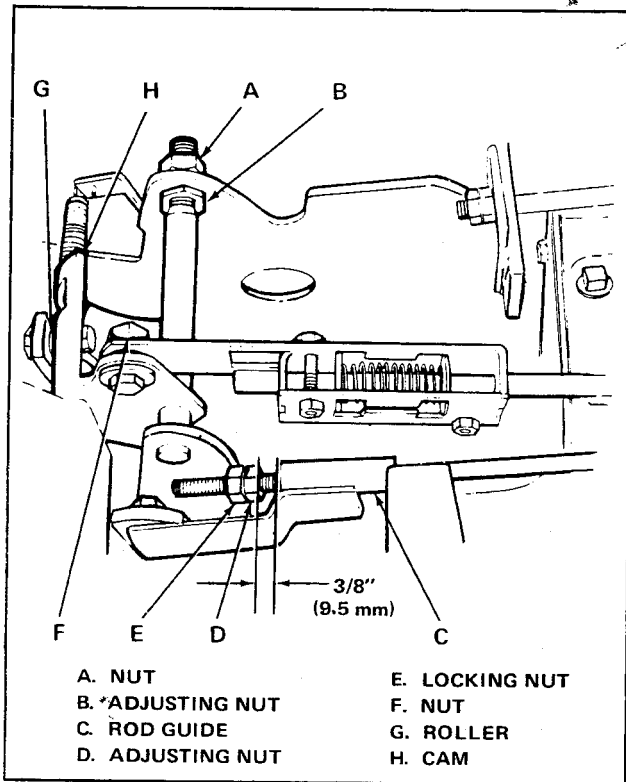

Figure 17. Clutch Free Travel and Transmission Neutral Adjustments
If the main drive belt does not engage or disengage properly, the clutch free travel may be incorrectly adjusted. To check the clutch free travel, raise the seat deck. Then pull the clutch-brake pedal fully up and back and measure the gap between the nut (item D, figure 17) and the rod guide (item C). If this gap is not 3/8 inch (9.5 mm), adjust the clutch-brake travel as follows:
1. Loosen the two nuts (items D and E, figure 17).
3. Check roller (item G, figure 17). The roller should be centered on the neutral mark of the cam (item H). If it is, proceed directly to step 7. If it is not centered, continue to step 4.
10. Loosen nut (item A, figure 17).